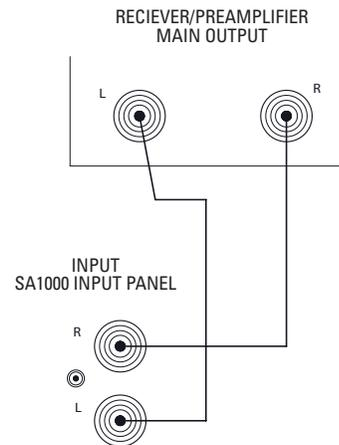

Figure 5
1. Connect a dual-channel RCA patch cable between Left & Right main outputs of the receiver/preamplifier and to the respective INPUT connectors on the SA1000 rear panel, as shown in Figure 5.